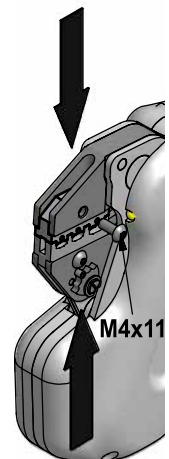

Figure 6
3. Press the Start button on the crimping tool briefly to close it so the upper part of the die set can be bolted into place using a bolt M4x11 (figure 6).